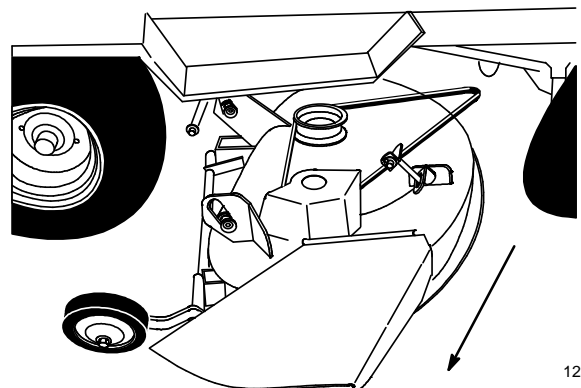

Figure 17
8. Turn the front wheels fully to the left and raise attachment lift lever all the way to the latched position; refer to tractor Operator's Manual. Slide the mower out from under the chassis to the right side (Fig. 17)